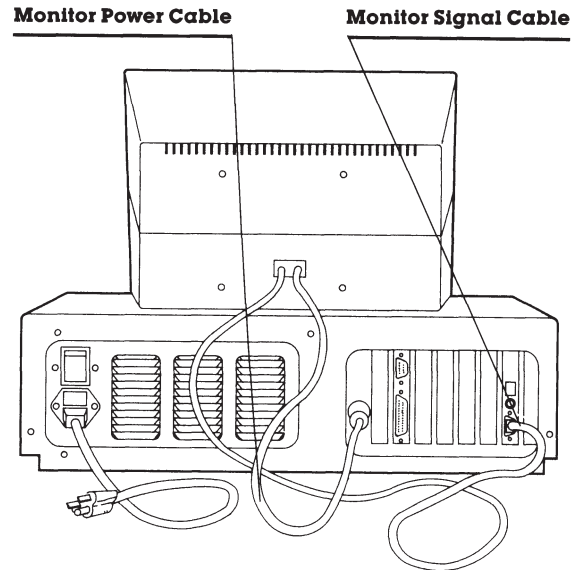

Figure 7-1. COMPAQ Dual-Mode Monitor (Installed).
3. Study Figures 7-1, 7-2, 7-3, and 7-4 to locate the monitor power and signal cables.